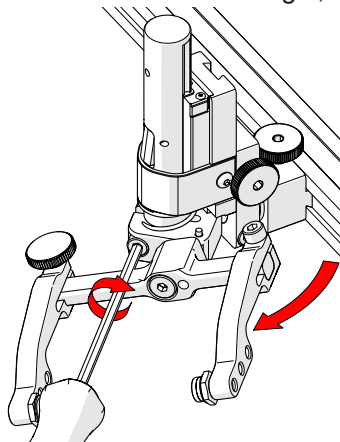

Fig. 182 - Rotate and tighten
3. Tighten the transverse adjustment screw (*Fig. 182*).